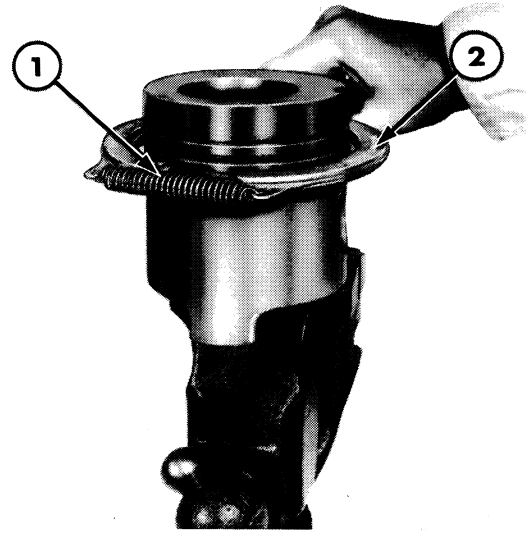

Figure 44
- Remove the piston rings from the pistons with a piston ring expander or other suitable means, Figure 44.